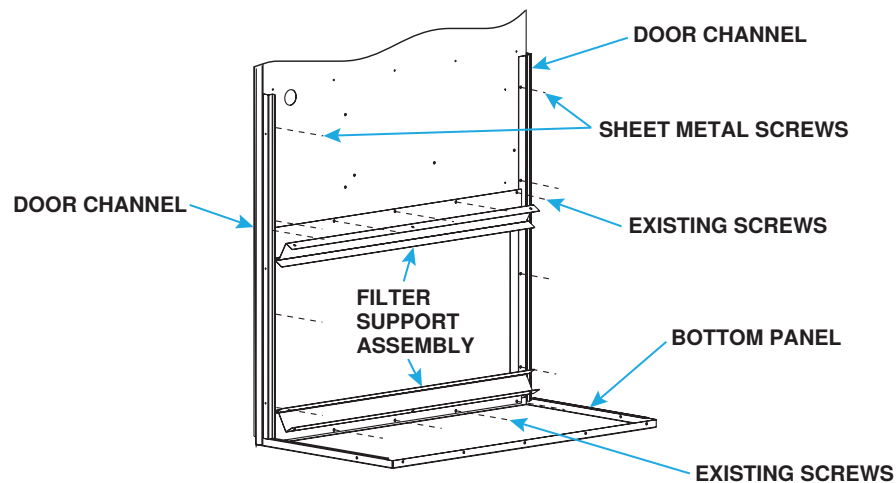

Figure 9. Install Bottom Panel and Filter Support Assemblies
2. Install two door channels, two filter support assemblies, and bottom panel as shown in **Figure 9**: